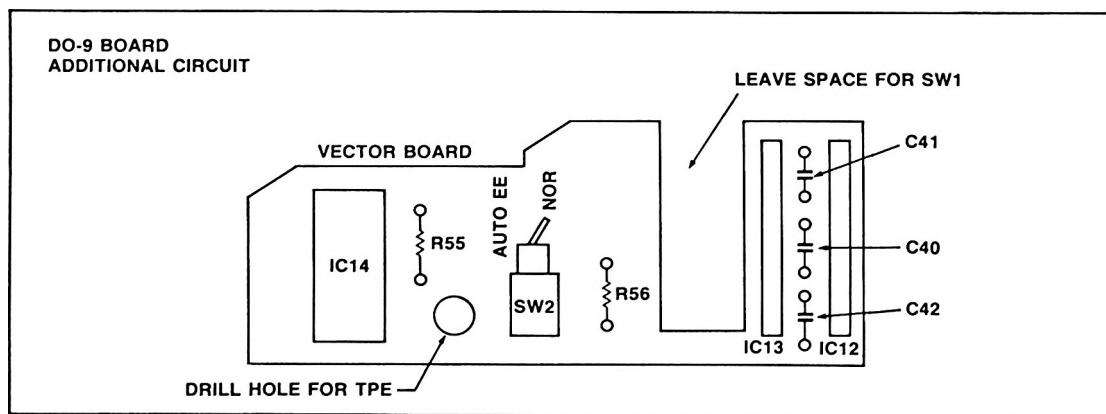

Figure 5
**SUGGESTION:** First mount components on vector board, then mount vector board to D0-9 Board with double sided tape. Figure 5 shows a possible configuration.